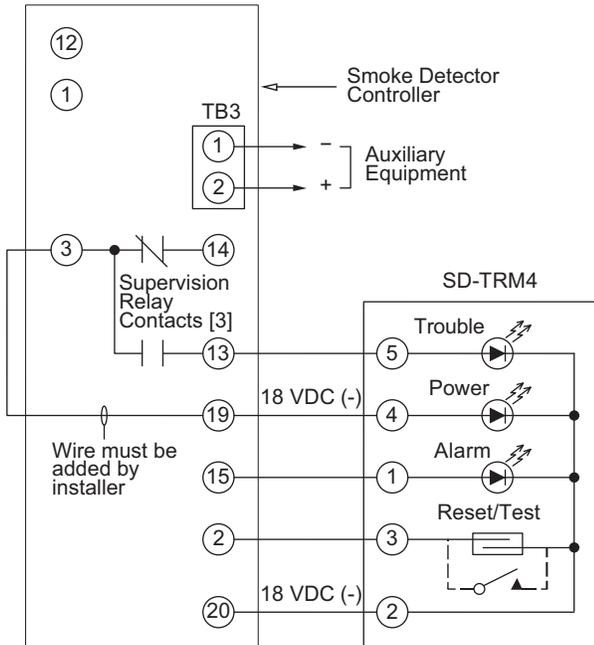

Fig. 61 — Remote Test/Reset Station Connections
The test/reset station dirty sensor test checks the test/reset station's ability to initiate a sensor dirty test and indicate the results. It must be wired to the controller as shown in Fig. 61 and configured to operate the controller's supervision relay. For more information, see "Dirty Sensor Test" on page 40.
1. Verify that the remote test/station is wired as shown in Fig. 61. Repair or replace loose or missing wiring.